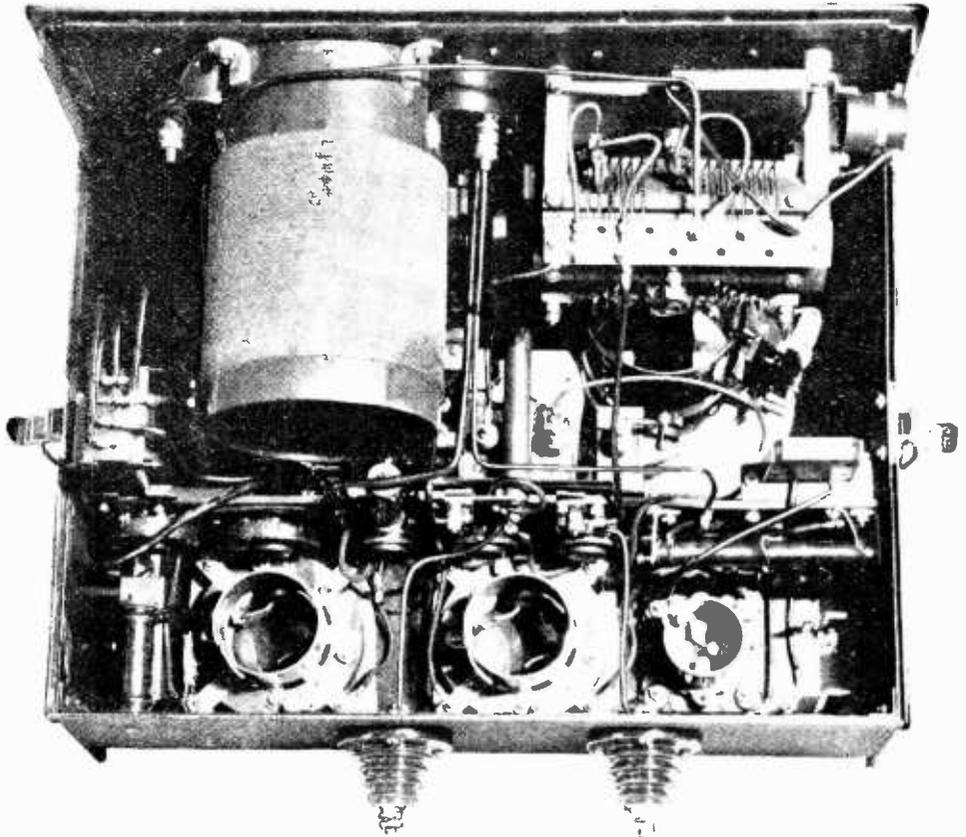

Fig. 2.—Interior of transmitter. The long-wave tuning coils are on the left and the short-wave on the right
Fig. 2.—Construction of tuning coil. A has 125 turns of No. 32 D.S.C. tapped at the 25th turn. B has 29 turns of 27/42 Litzendraht, and C, 6 turns of No. 32 of D.S.C.
The construction of the coil will be understood by referring to Fig. 2. A piece of ebonite 4in. external diameter by 6in. long, has at one end a winding of 29 turns of 27/42 Litzendraht wire. This is coil B, and the winding is commenced 1/2in. from the end of the former. Its ends are connected to points 1 and 2, and the turns are wound touching, making the winding length 1.1in. long. If Litzendraht is not available, a fairly good coil can be made of the same number of turns of No. 20 D.S.C. wire. Coil C should be wound at the end of coil B, and comprises 6 turns of No. 32 D.S.C. copper wire wound in the same direction. Its beginning end is connected to soldering tag (3), while its finishing end goes to soldering tag (5), the connections being made
inside the tube. Coil A may now be wound, and comprises 125 turns of No. 32 D.S.C. copper wire with a tap at the 25th turn, as shown in Fig. 2. The length of coil A is 1.75in., and it will be noticed that one end is connected to tag (2), while its other end is connected to tag (5). The tap is taken to tag (4). These tags are held by small 4 B.A. screws and nuts.
The transmitter is designed to operate on 45 metres and 600 metres. Fig. 1 gives a general view of it, while Fig. 2 shows the internal arrangements. The receiver, shown in the title of this article, has a double wave range: 45 metres, and 550 to 850 metres.